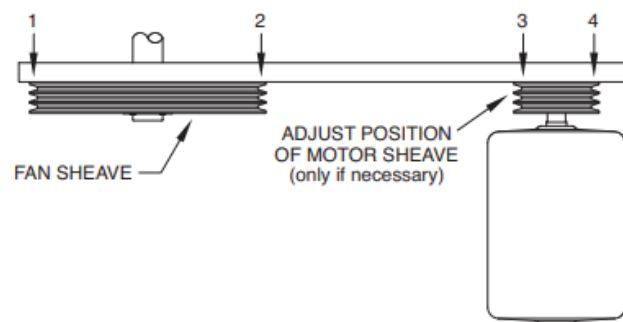

Figure 21 – Sheave Alignment Check
9. As a final check, lay a straight edge from sheave to sheave as shown below in Figure 21. There should be four-point contact. Adjust the position of the motor sheave as necessary until four-point contact is achieved.